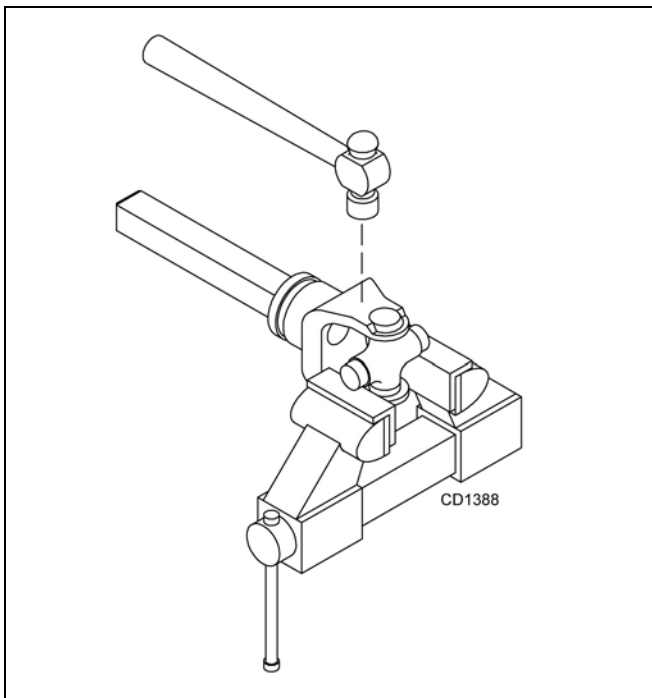

Figure 26
4. Place universal cross in vise as shown in Figure 26 and tap on yoke to remove cup. Repeat Step 3 for